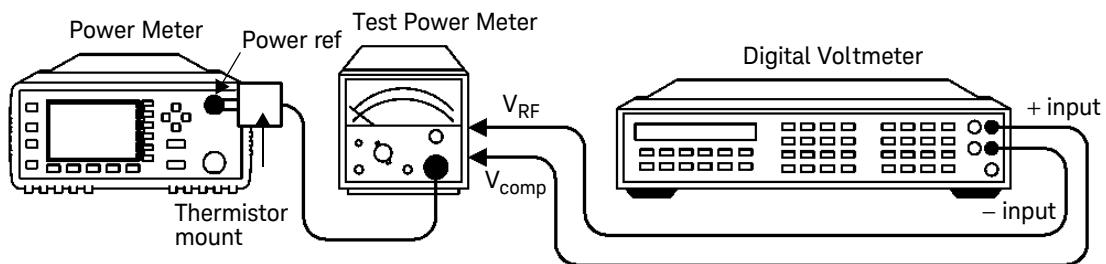

Figure 2-10 Output Standing Wave Ratio Test Setup
- 9** Connect the equipment as shown in Figure 2-10 ensuring that the DVM input leads are isolated from chassis ground.
- Connect the equipment as shown in Figure 2-10 ensuring that the DVM input leads are isolated from chassis ground.